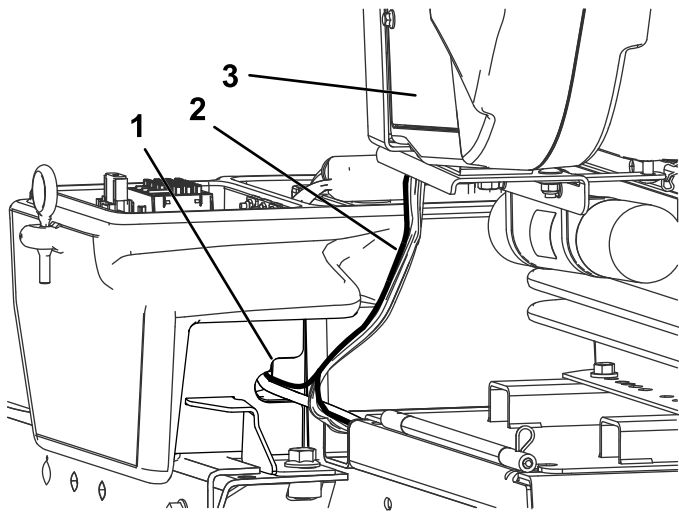

Figure 23
3. Route the terminal plug and the eyelet connection into the right toolbox (Figure 23).